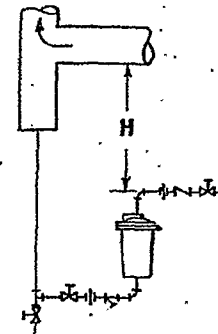

Fig. 26-1. Trap draining drip leg at riser. Distance "H" in inches ÷ 28 = psi static head for forcing water through trap.
**Step 3.** Pressure differential for trap sizing will be 1 psig for every 28" of head between bottom of main and top of trap—See Fig. 26-1.